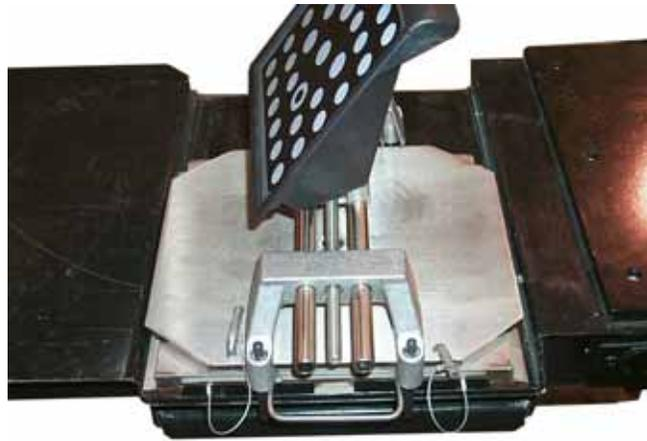

Figure 10a
4. Set the rear targets as far back on the lift as is reasonable (Figures 10a and 10b). Make sure they are equal distance from the lift centerline and the target clamps are square to the lift. The clamps should be spread equal distances and the rear targets should be equal distances from the front targets.